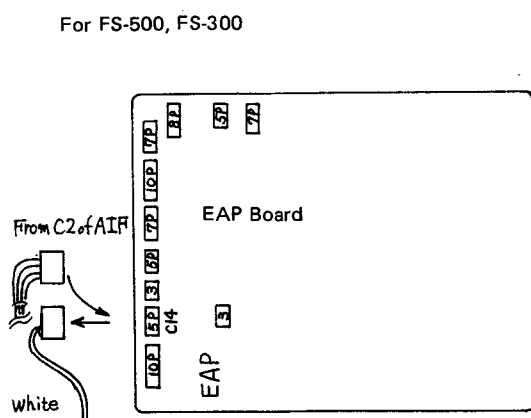

Fig. 9
- 18A. For models FS-500, FS-300. Remove the MEP circuit board (upper left) from the support pins so that the EAP circuit board can be easily accessed (lower left). Disconnect the 5 pin socket to connector C14. Using tape or a cable tie, secure this cable in a location where it will not generate rattles, or short circuit possibilities (This connector is not used). Now, connect the loose end of the 5 conductor cable connected to C2 on the AIF circuit board in step #16, to connector C14 of the EAP circuit board (see figure 9). Reinstall the MEP circuit board back to the original position, and secure with provided clips. Then go to step #19.